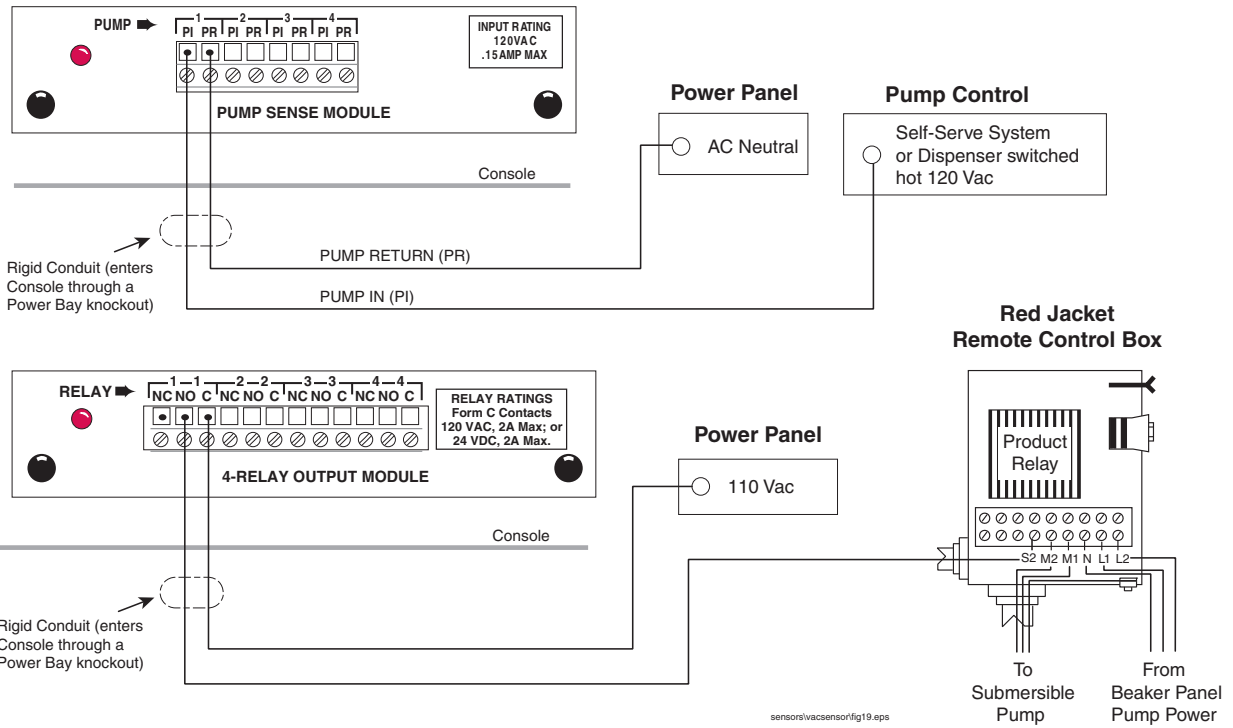
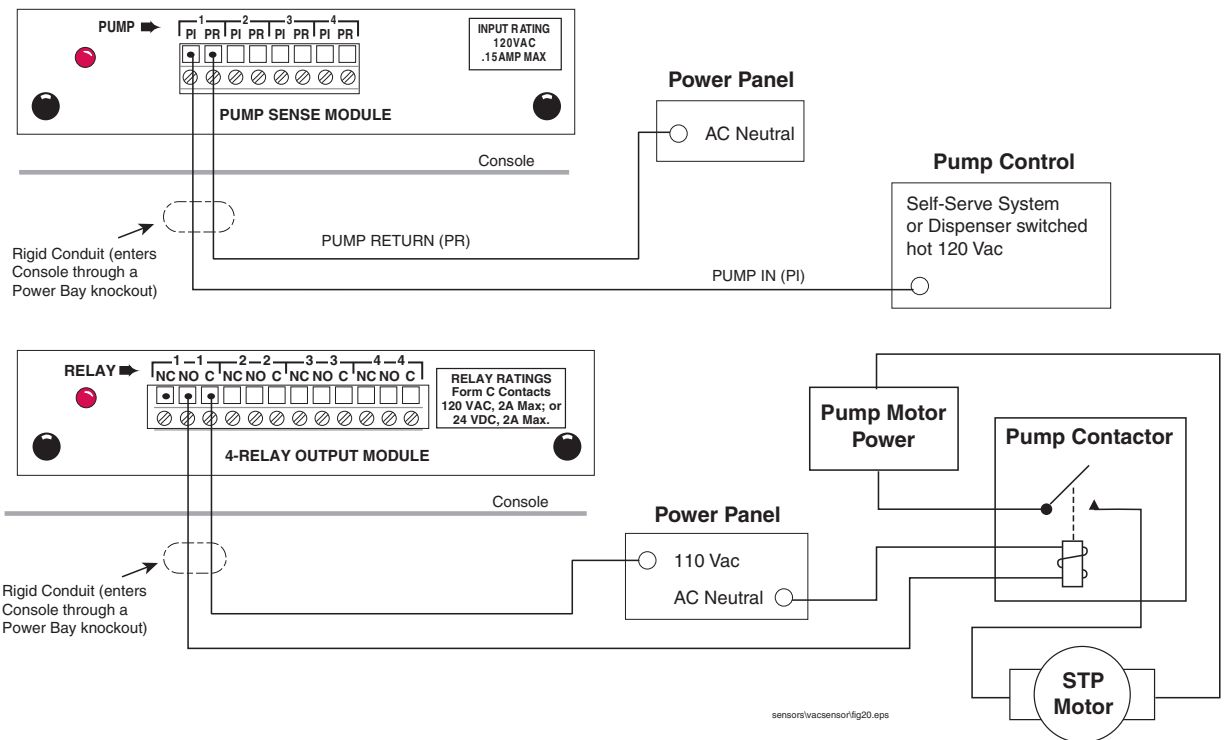

Figure 7. Connecting Pump Sense & 4-Relay Modules - Red Jacket Pumps
Figure 8. Connecting Pump Sense & 4-Relay Modules - Non-Red Jacket Pumps
- For module connections with Red Jacket pumps see Figure 7. For module connections with non-Red Jacket pumps see Figure 8.